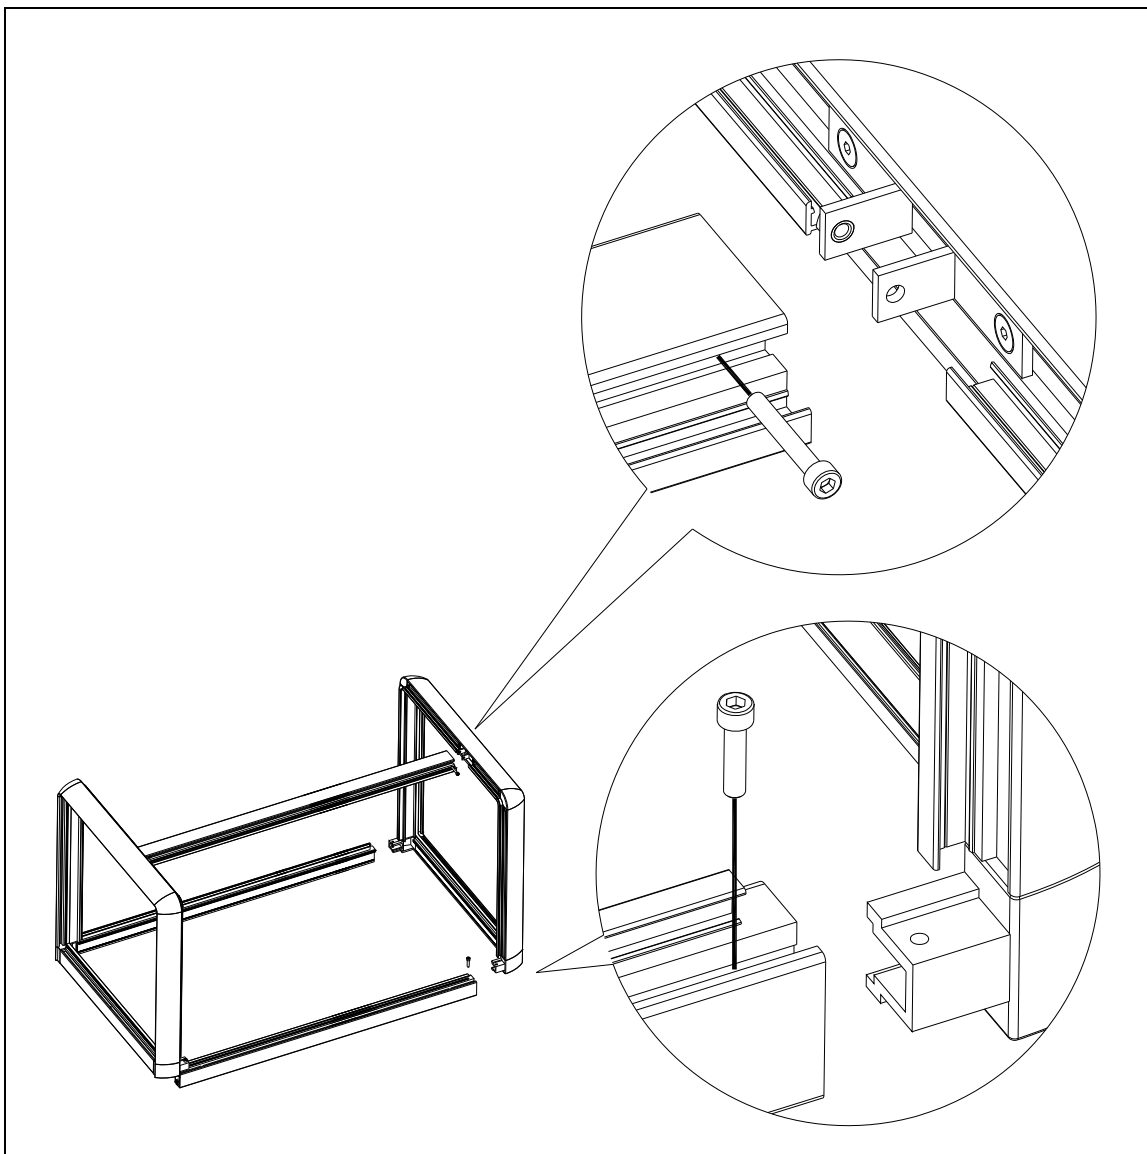

Figure 25: exploded view sound shield M-SQ6
- 2 The sound shield canopy can be disassembled according to exploded view below (figure 25).